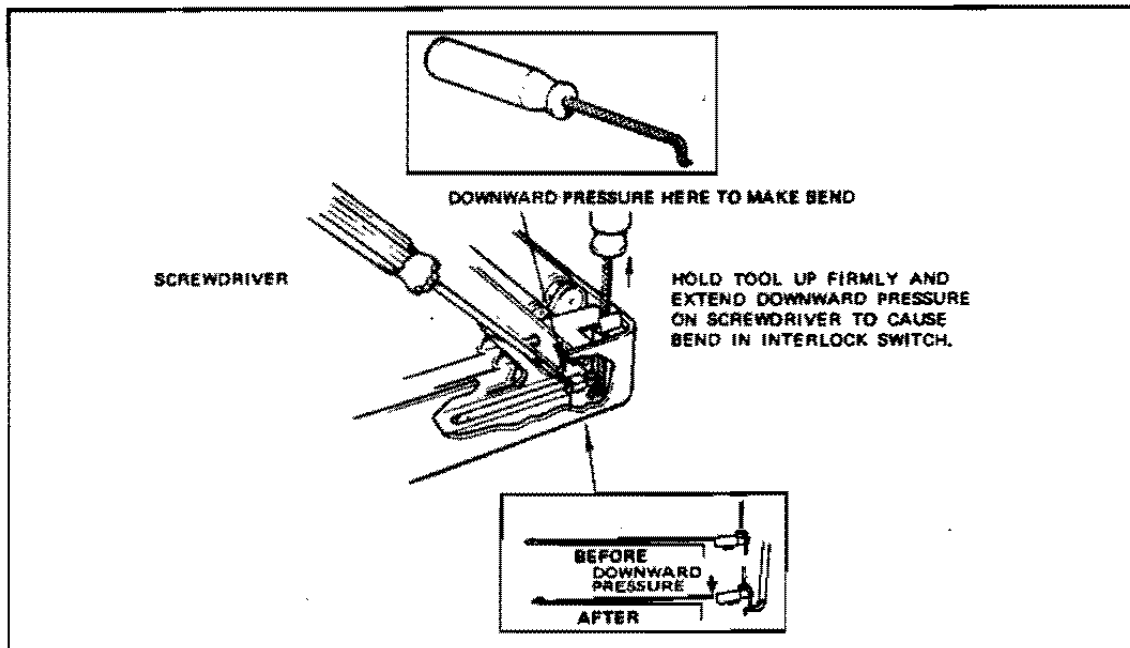

FIG. 4-28 ADJUSTING THE BATTERY INTERLOCK SWITCH
- Position the tweaking tool in the access hole, sliding the end of the tool under the interlock switch as shown in Figure 4-28.